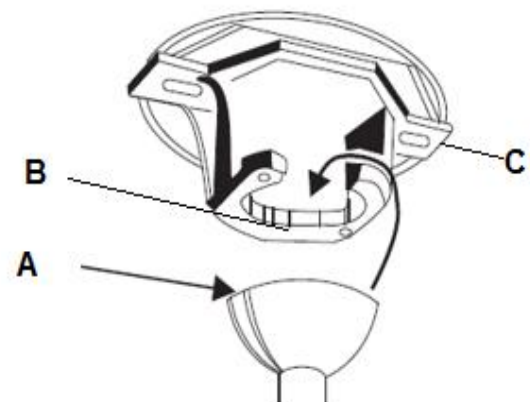

Fig. 10
Lift the fan assembly onto the mounting bracket. Ensure the key slot (A) of the hanger ball is positioned on the key pin (B) of the mounting bracket (C) to prevent the fan from rotating when in operation. **Fig.10**